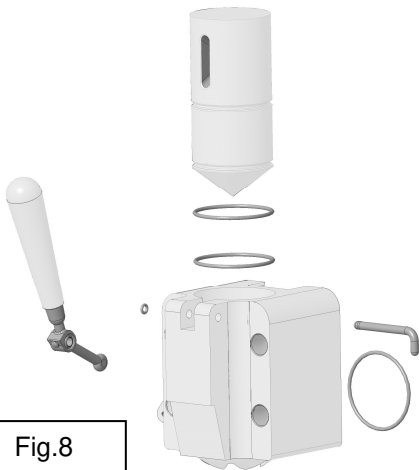

Fig.8
3. Lower the handle, remove the pin and remove the draw valve from its seat (Fig.8).